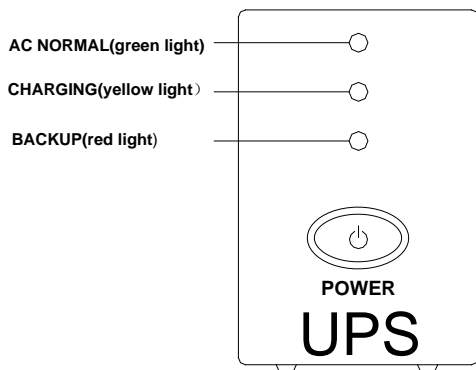
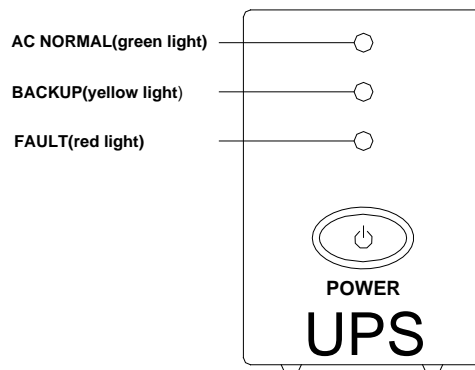

Figure 8 (LED display mode 1)
Figure 9 (LED display mode 2)
■ **Operating by the LED display mode 1 ((Reference the figure 8):**
4. BACKUP INDICATOR (red light slow blinking) ---The indicator starts slow blinking when utility power is outside acceptable limits. The battery is powering the UPS outlets. The expected runtime for a typical personal computer (PC) is about 10 to 20 minutes.
■ **Operating by the LED display mode 2 ((Reference the figure 9):**
3. BACKUP INDICATOR (yellow light slow blinking) ---The indicator starts slow blinking when utility power is outside acceptable limits. The battery is powering the UPS outlets. The expected runtime for a typical personal computer (PC) is about 10 to 20 minutes.